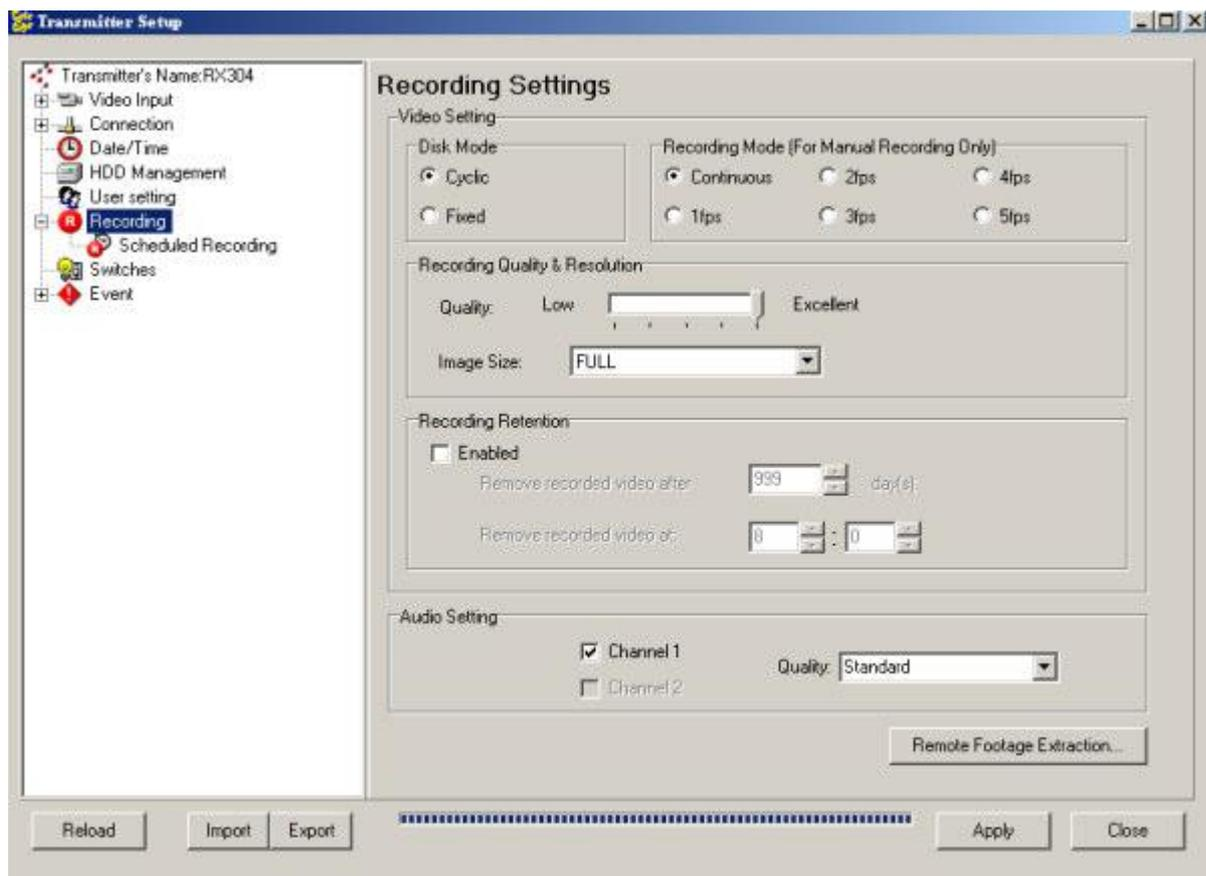

Fig 6.1a
Step 1 : Click [Transmitter Settings]  icon on the {Main Panel}. Enter the administrator password to pop up {Transmitter Setup} panel. Click [Recording] option as shown on **Fig 6.1a**.
Step 1: Click on [Footage Extraction] button (Fig 6.1a)